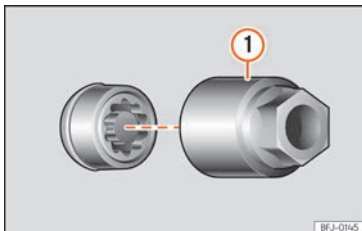

Fig. 239 Anti-theft wheel bolt with cap and adapter.
- Insert the special adapter **»» Fig. 239 ①** [vehicle tools **»»** page 312] onto the anti-theft wheel bolt and push it on as far as it will go.